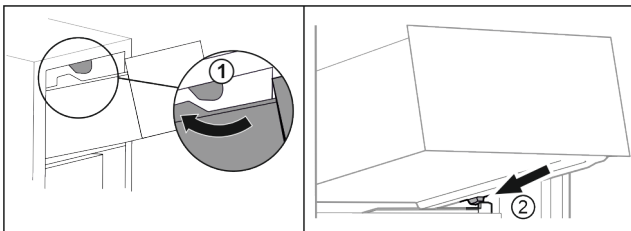

Fig. 78
- ▶ Guide drawer around the upper stoppers. Fig. 78 (1)
- ▶ Place drawer at an angle behind the lower stoppers on the molded rib. Fig. 78 (2)